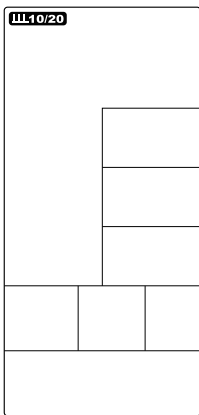
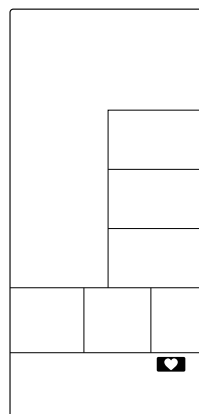

Figure 4
Figure 16
2. The window of **INTERVAL10/20**、**INTERVAL10/20**、**INTERVAL CUSTOM**、**READY**、**WORK**、**REST**、**TIME**、**DISTANCE**、**CALORIES**、**WATTS**、**SPEED**、**RPM** and  will flash by sequence in every 1s (Figure 4~Figure 16). If no input of key operation or RPM signal or pulse input for 60s, computer will go to Sleeping mode.